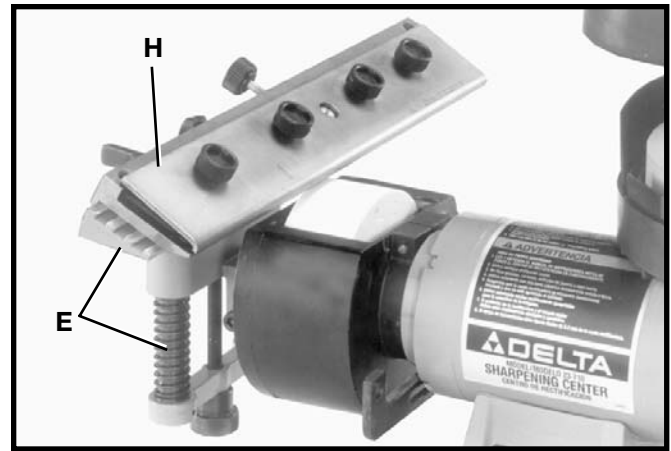
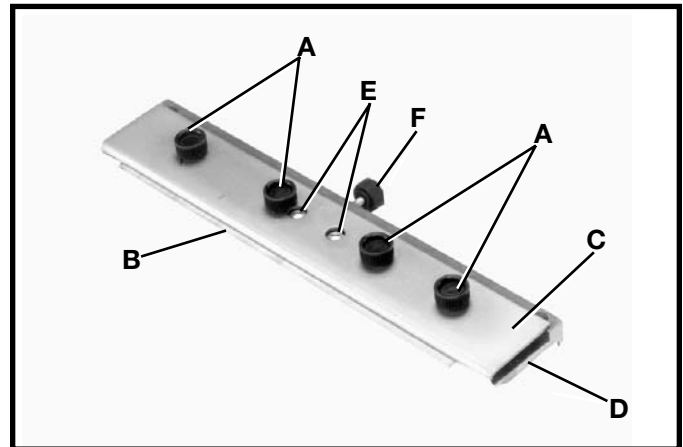

Fig. 50
Fig. 52
4. Fig. 50, illustrates the sliding tool rest (E) assembled to the dry wheel side of the machine with the knife holder (H) positioned on the tool rest. All controls and adjustments for the sliding tool rest are explained in the section of this manual titled "ASSEMBLING ACCESSORY 23-715 SLIDING TOOL REST TO WET WHEEL."
1. Loosen four lock knobs (A) Fig. 52 and two screws (E) and carefully slide knife (B) between the top and bottom pieces (C) and (D) of the sliding tool rest. It is important that the bevel edge of the knife (B) is in the down position. Also, be sure the back of the knife is pushed in so it sits against the knife adjustment bar inside the tool rest.
2. Make sure knife (B) Fig. 52, protrudes out from the top and bottom pieces (C) and (D) of the sliding tool rest at least 5/16". If it does not, rotate adjusting knob (F) Fig. 50, clockwise to move the knife outward or counterclockwise to move the knife inward. When moving the knife inward, carefully push the knife (B) inward with a piece of scrap wood while turning the knob (F) counterclockwise. When you are certain the knife protrudes 5/16" outward from the sliding tool rest, tighten two screws (E) and four knobs (A).